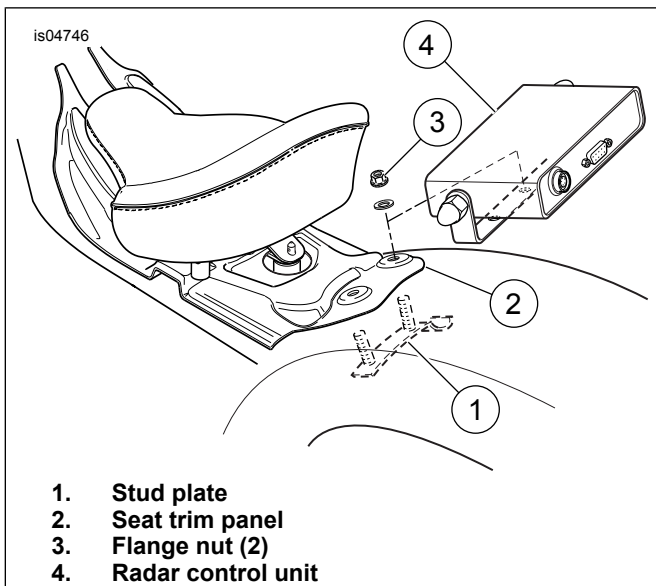
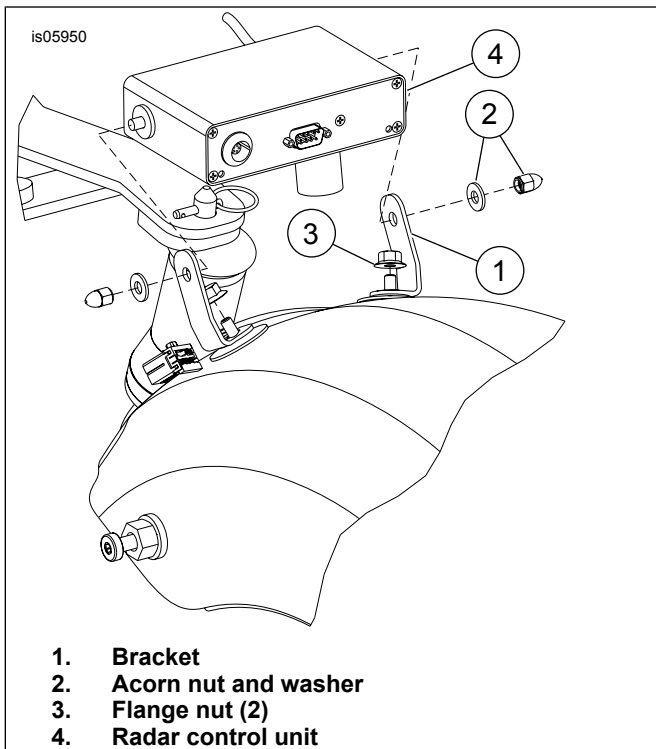

Figure 10. Radar Control Unit - 2008-Earlier FLHP, FLHTP
Figure 11. Radar Control Unit - 2009-Later FLHP, FLHTP
1. **For 2008-Earlier Models:** See Figure 10. Remove the two flange nuts (3) and flat washers retaining the rear of the seat trim panel (2) to the stud plate (1) on the underside of the fender. **For 2009-Later Models:** See Figure 11. Remove the two flange nuts (3) and install the brackets (1).
2. **For 2008-Earlier Models:** Mount the radar control unit (4) onto the studs. Install the flat washers and flange nuts on the studs. Tighten the nuts to 20–27 N·m (8–12 ft-lbs). **For 2009-Later Models:** See Figure 11. Install the acorn nut and flat washer (2). Tighten the nuts to 20–27 N·m (8–12 ft-lbs).